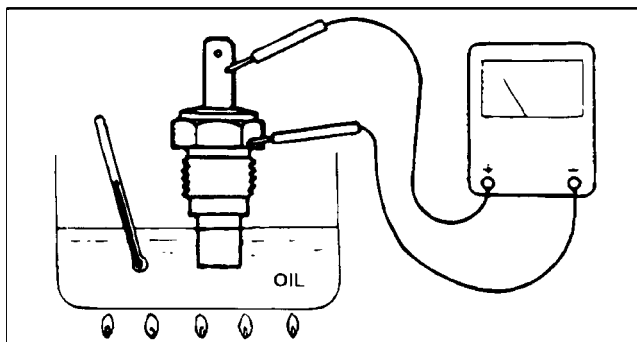

Figure 57
2. Put the thermistor in a container of oil with a thermometer and slowly heat the oil (Fig. 57).